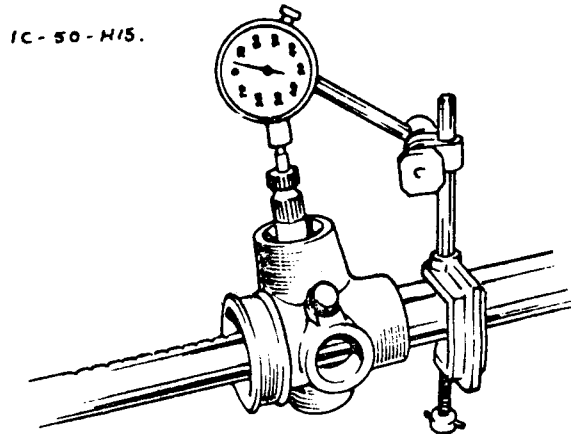

Fig. 13. MEASURING PINION END FLOAT
- b. Mount a dial gauge on the tube as shown in Fig.13. Push the pinion down to its limit and zero the dial gauge. Lift the shaft until the retaining ring contacts the circlip and note the dial reading. This represents the total pinion shaft end float. Remove the circlip and withdraw the pinion shaft assembly. Remove the retaining ring and fit a new rubber 'O' ring.